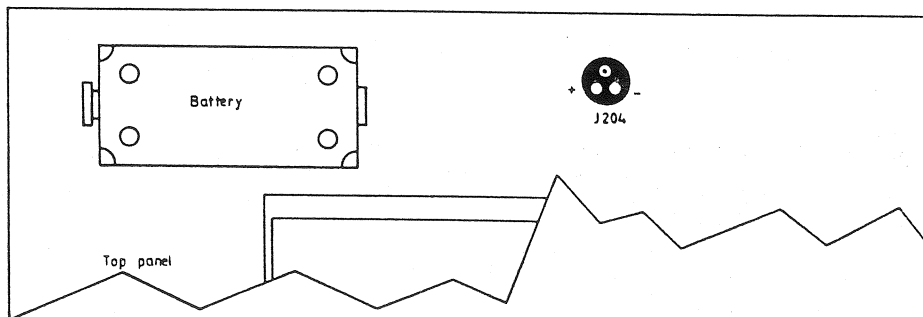

Fig. 3B.25 **Position of Battery on Test Set**
- 45 Prepare set up as shown on Fig 3B.26.